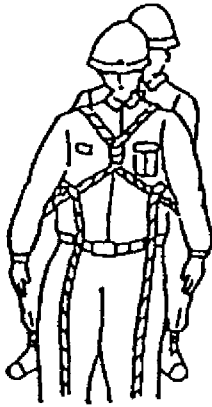

Fig. 7-12
- c. Bring these ends forward over the rope crossed at the rescuer's chest. (Fig. 7-12)
(5) Wrapping the Support Rope